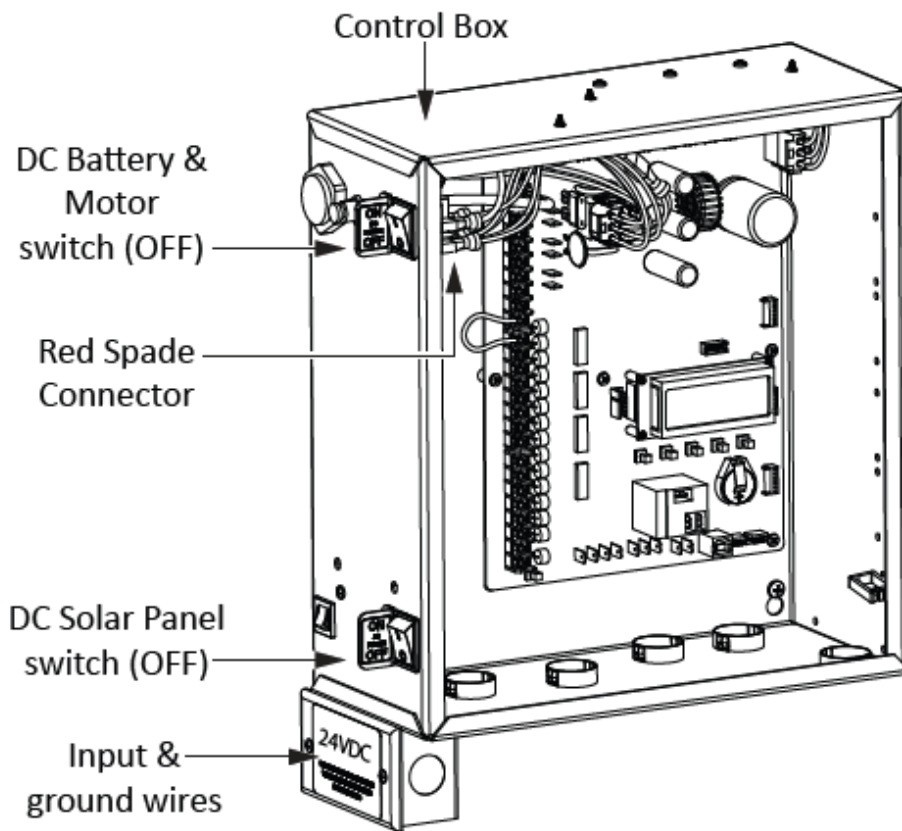

Figure 19. Kinetic DCS Control Box
***"Figure 19. Kinetic DCS Control Box"*** on page 75.